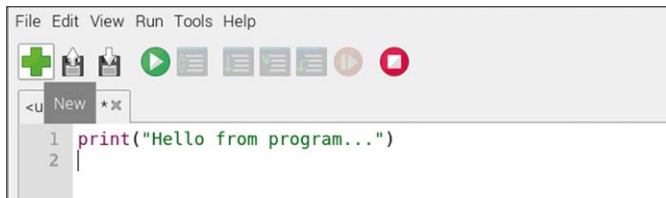

Figure 2.12: Write the program at upper part of the screen.
- Enter the program statements at the upper part of the screen as shown in Figure 2.12.